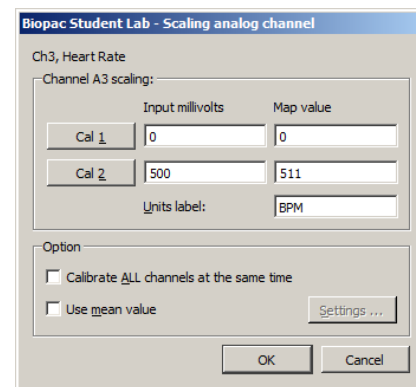

Figure 6
10. Click the wrench button in the units (BPM) region of **CH 3** (Heart Rate) to display the Scaling dialog shown in Figure 6.